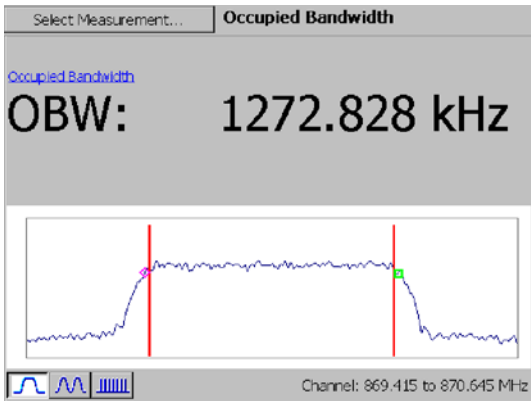

Figure 3-45: A typical Occupied Bandwidth display
3. Tap **Occupied Bandwidth**. See Figure 3-45.